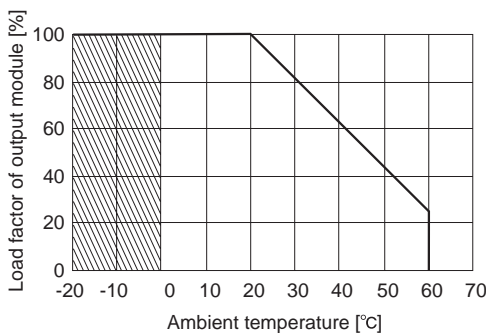

Fig.5.4 Derating curve depending on ambient temperature(-K)
- The difference from standard is shown Fig.5.4.